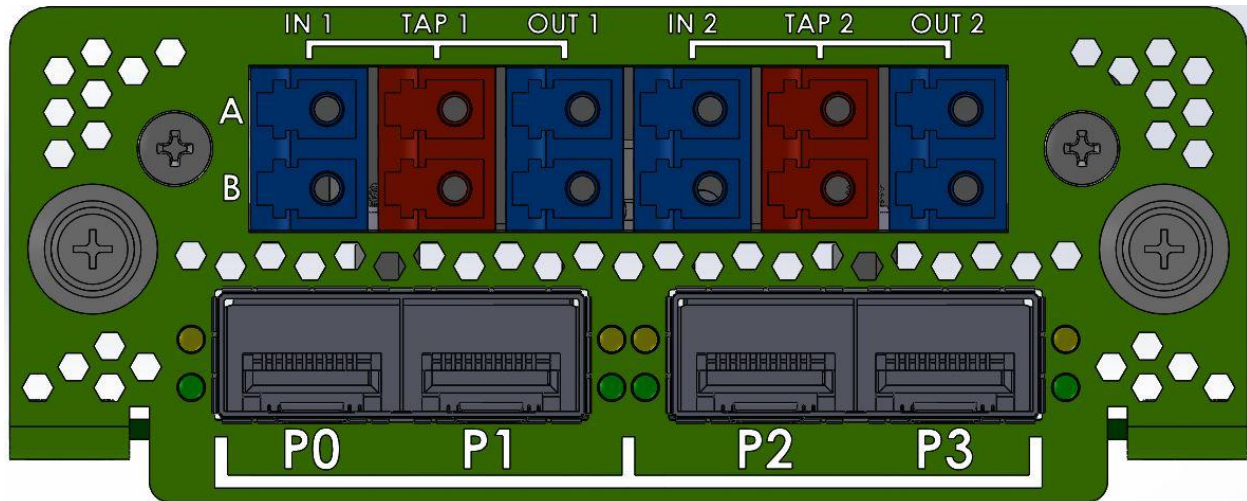

Figure 2: Integrated Optical TAP Front Plate
Figure 2 shows the front plate of a 10GbE PIM with integrated optical TAP (40GbE is very similar and can be used to monitor one 40G bi-directional link using Cisco BiDi compatible transceivers). There are four 1/10 GbE transceivers (SFP+) labeled P0, P1, P2 and P3 across the bottom. Each transceiver has a transmit (TX) and receive (RX) side. With four transceivers, this configuration allows two bi-directional links (4 fibers total) to be monitored. Above the transceivers are eight blue and four red optical fiber receptacles. A single optical fiber goes in or comes out each of these receptacles.
In Figure 2 the live traffic comes IN and OUT (as marked) the blue receptacles at the top and the tapped traffic out the red receptacles. There are two rows of receptacles marked “A” and “B”. The A row is for the fiber (of a pair) that is going in one direction and its corresponding fiber going in the other direction is on the B row.